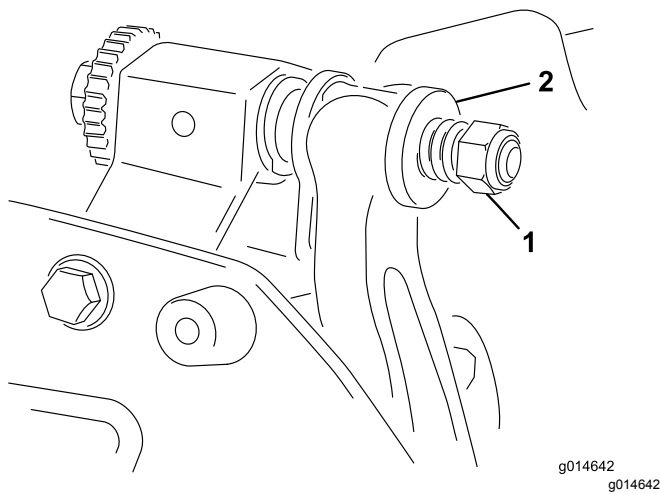

Figure 21
5. Tighten the spring tension nut until the spring is collapsed, then back it off 1/2 turn (Figure 21).